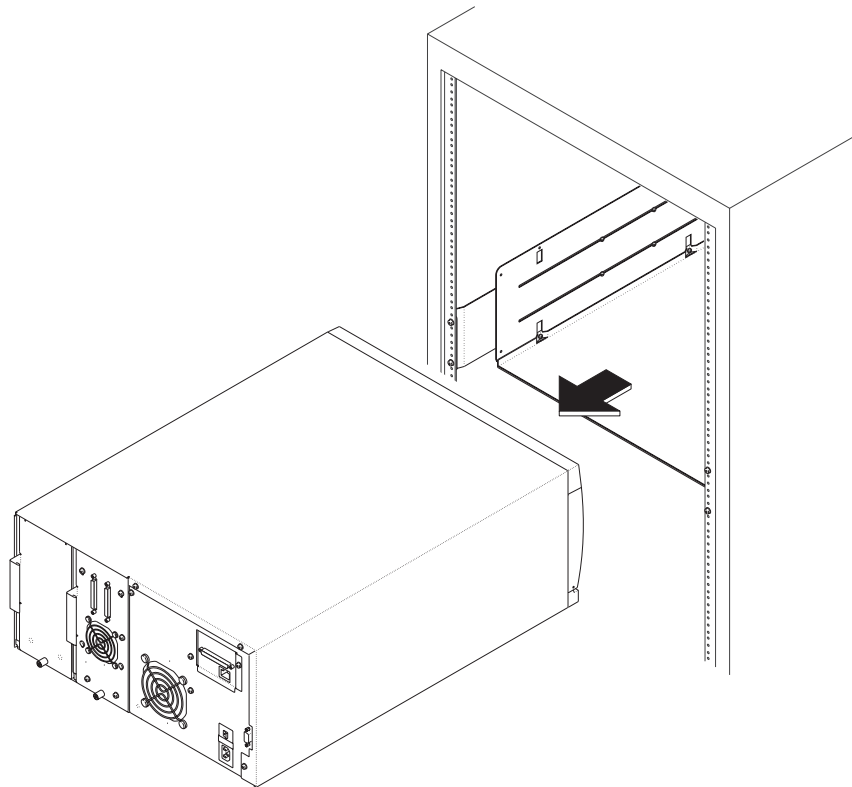

Figure 9-2 Removing the library from the rack
2. From the back, slide the library off of the rack shelf, as shown in Figure 9-2.